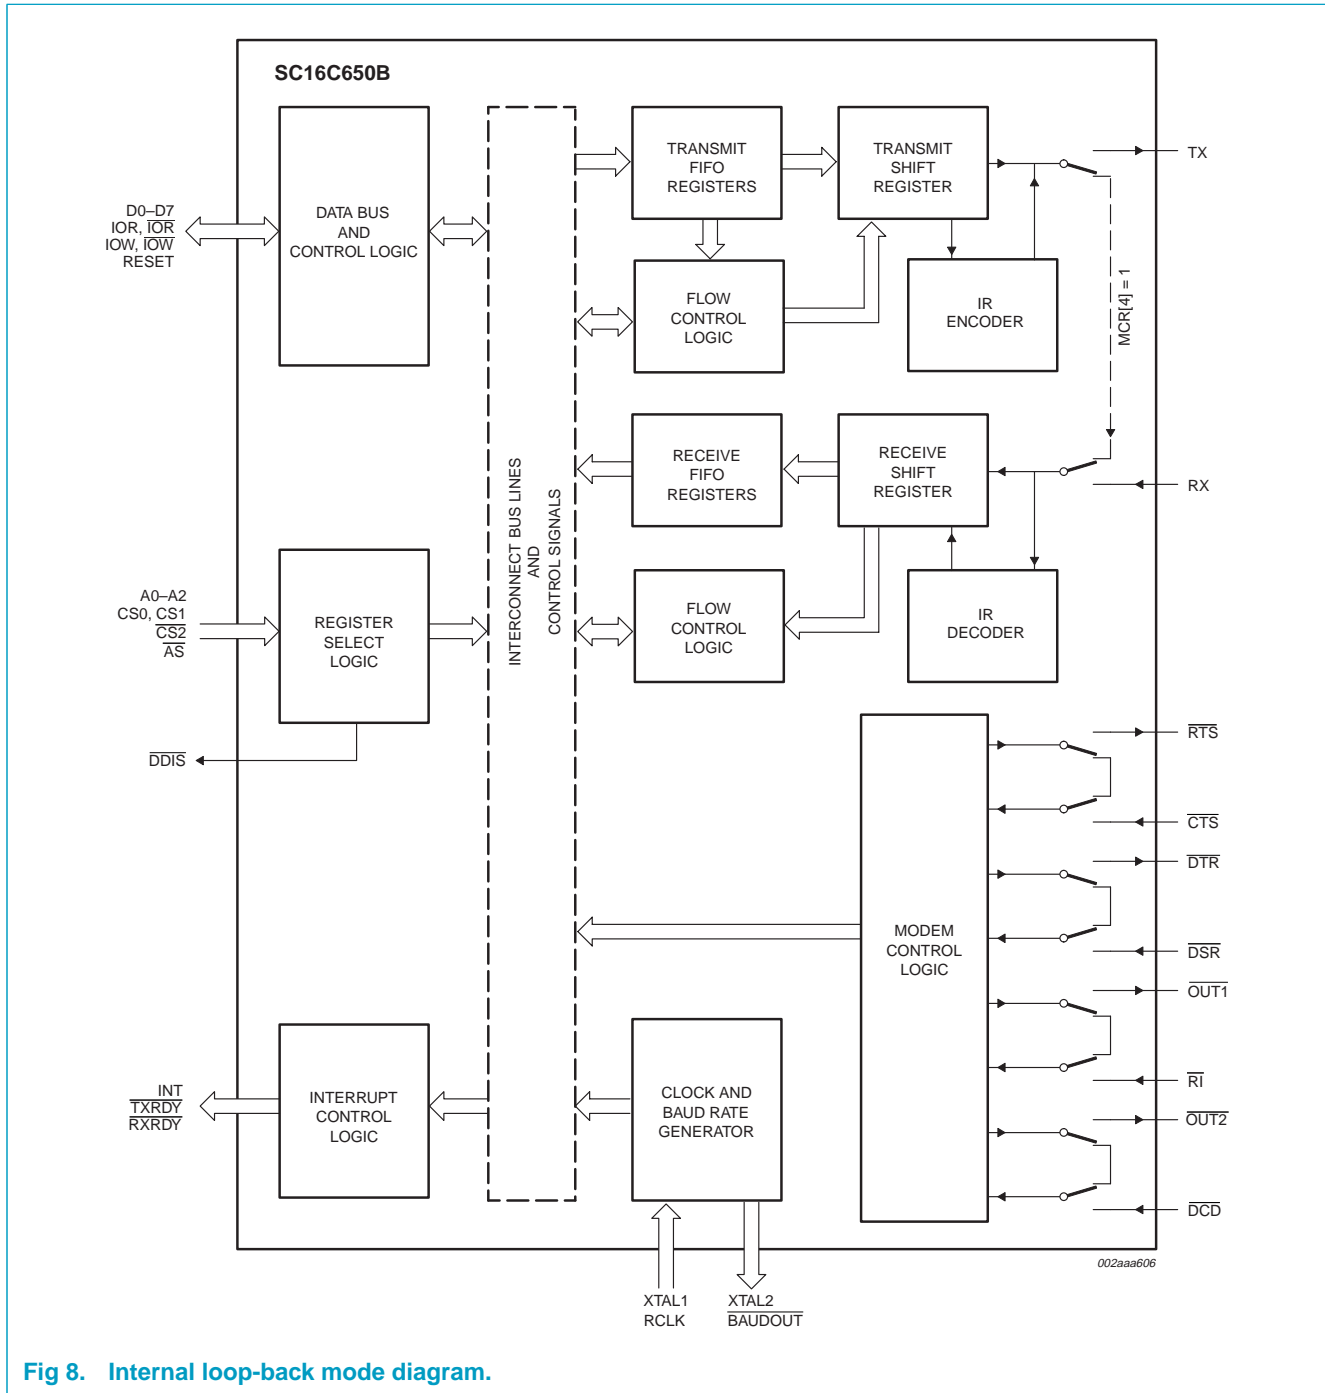

Fig 8. Internal loop-back mode diagram.
The internal loop-back capability allows on-board diagnostics. In the loop-back mode, the normal modem interface pins are disconnected and reconfigured for loop-back internally. MCR[0:3] register bits are used for controlling loop-back diagnostic testing. In the loop-back mode, OUT1 and OUT2 in the MCR register (bits 2:3) control the modem  $\overline{\text{RI}}$  and  $\overline{\text{DCD}}$  inputs, respectively. MCR signals  $\overline{\text{DTR}}$  and  $\overline{\text{RTS}}$  (bits 0:1) are used to control the modem  $\overline{\text{DSR}}$  and  $\overline{\text{CTS}}$  inputs, respectively. The transmitter output (TX) and the receiver input (RX) are disconnected from their associated interface pins, and instead are connected together internally (see Figure 8). The  $\overline{\text{CTS}}$ ,  $\overline{\text{DSR}}$ ,  $\overline{\text{DCD}}$ , and  $\overline{\text{RI}}$  are disconnected from their normal modem control input pins, and instead are connected internally to  $\overline{\text{DTR}}$ ,  $\overline{\text{RTS}}$ , OUT1 and OUT2. Loop-back test data is entered into the transmit holding register via the user data bus interface, D0-D7. The transmit UART serializes the data and passes the serial data to the receive UART via the internal loop-back connection. The receive UART converts the serial data back into parallel data that is then made available at the user data interface D0-D7. The user optionally compares the received data to the initial transmitted data for verifying error-free operation of the UART TX/RX circuits.